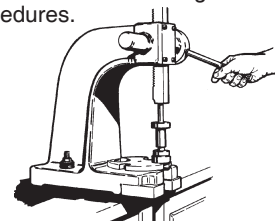

Figure 5-7
1. Using an arbor press, install the bearings on the shaft prior to installing the shaft into the pedestal. A steel "donut" with the proper inside diameter and outside diameter, Refer to Chart 1, should be used between the arbor face plate and the lower bearing to insure proper installation and to prevent bearing damage. The bearings must seat against the shoulder for proper alignment. Refer to Figure 5-7. \*Also refer to Alternate bearing installation procedures.